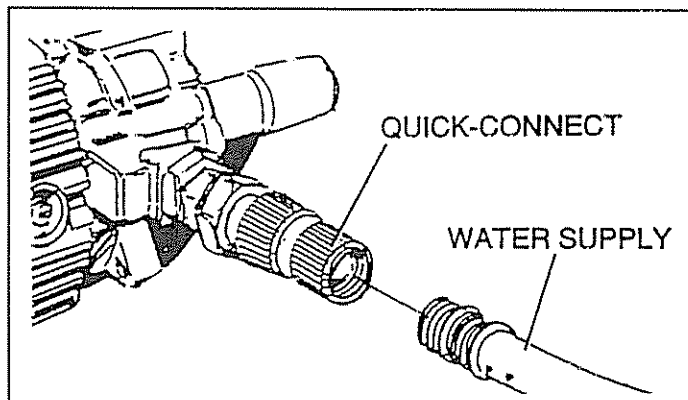

FIG. 17
- Hook up water supply (Fig. 17).